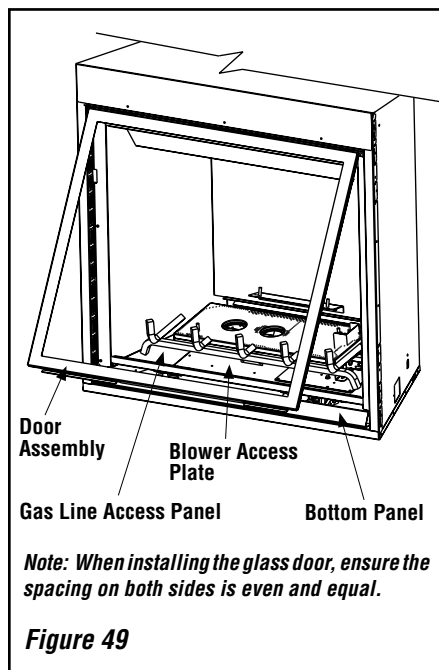

Figure 49
1. To access the glass door securing latches, first open the lower control compartment door (*Figure 49*) by lifting and pulling the bottom panel forward.
5. Inspect the gasket for defects. Insure it is properly located. Make sure the bead is not rolled up into the channel at the top of the door, but remains flat against the top of the glass (see *Figure 49*).
6. Position the door in front of the firebox opening with the bottom of the door held away from the fireplace (*Figure 49*). Hook the top flange of the door frame over the top of the firebox frame.